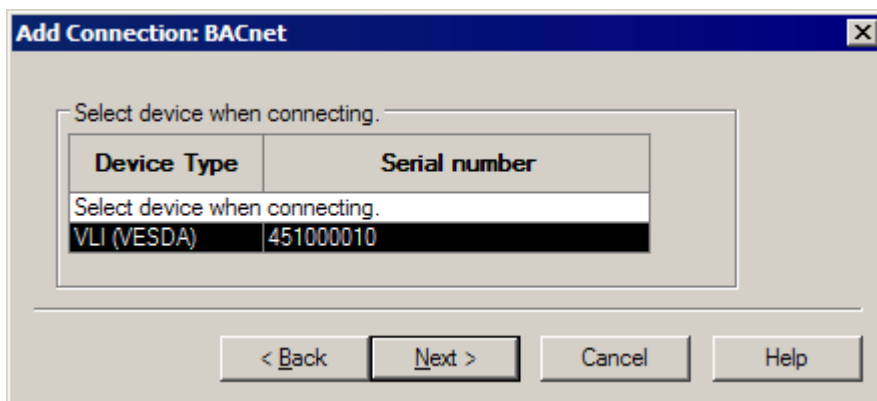

Figure 5-4: Select Device
5. Select the detector type from the list of available detectors, then select Next (Figure 5-4).